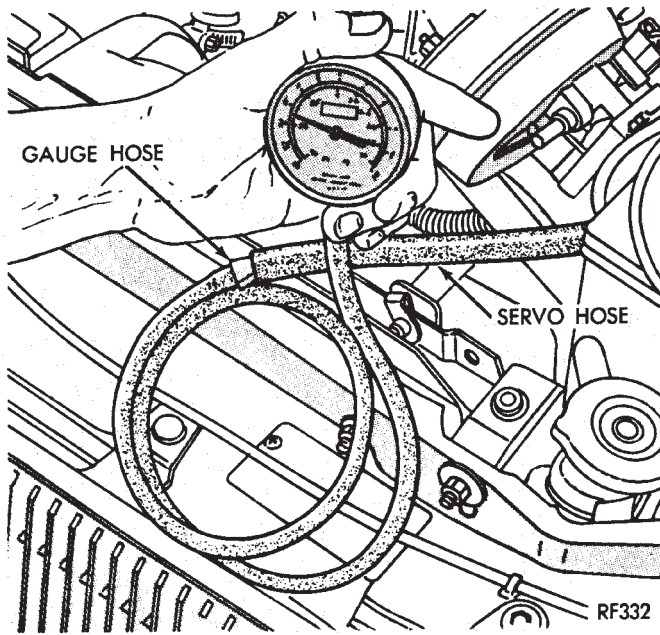

Fig. 11 Vacuum Gauge Test
(1) Disconnect vacuum hose at the servo and install a vacuum gauge in the hose (Fig. 11).
(2) Start engine and observe gauge at idle. Vacuum gauge should read at least ten inches of mercury. Shut off engine, the vacuum should continue to hold 10 inches of mercury.
(3) If vacuum does not meet this requirement, check and correct the following vacuum leaks: